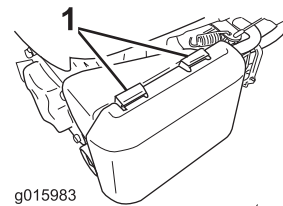

Figure 26
1. Press down on the latch tabs on top of the air-cleaner cover (Figure 26).